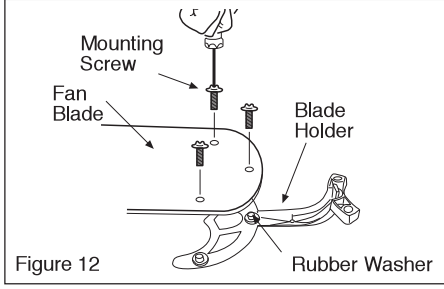

Figure 12
- Mount the blade holders to the fan blades using the screws provided – 3 per blade (Figure 12). Please note the rubber washers are pre-installed to the blade holder.